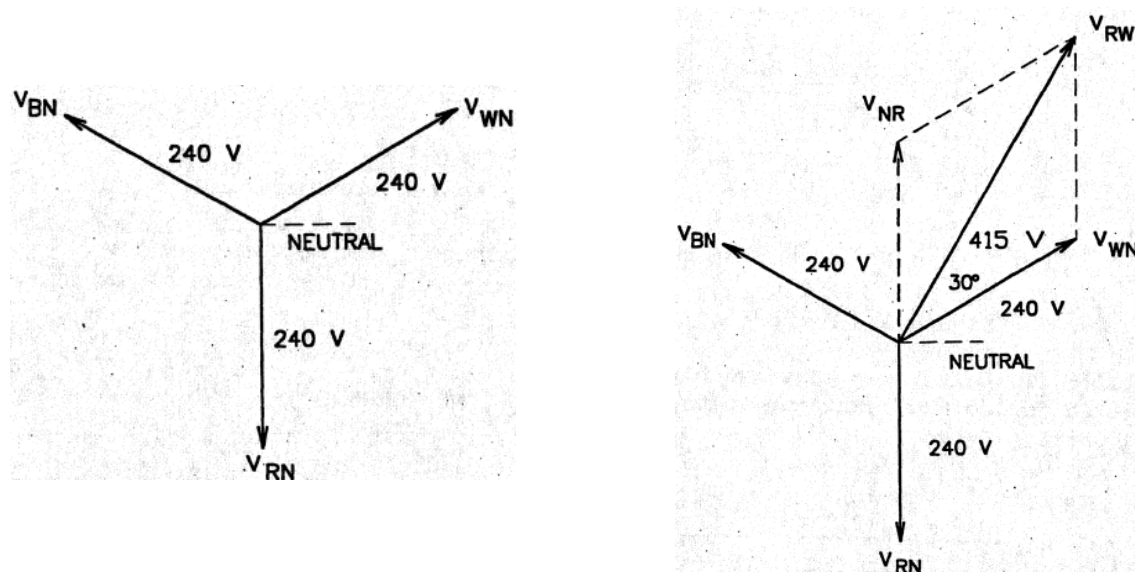

Figure 7 – Voltage relationships in star
- 20 Each of the pairs of coils in a star connection is connected in series across the 415 volt supply, so you might expect that the voltage across the individual coils would be half the line voltage (from Ohm's Law), but this is not so because the phase to phase voltages are 120 degrees out of phase with each other. The voltages across any two legs of the star connection are 120 degrees out of phase with each other, so if each was 240 volts the phasor difference would be 415 volts (or 240 times $\sqrt{3}$). As a general principle, the coil voltage must be less than the line voltage – by a factor of $\sqrt{3}$. The voltage relationships in a star configuration are shown in Figure 7.